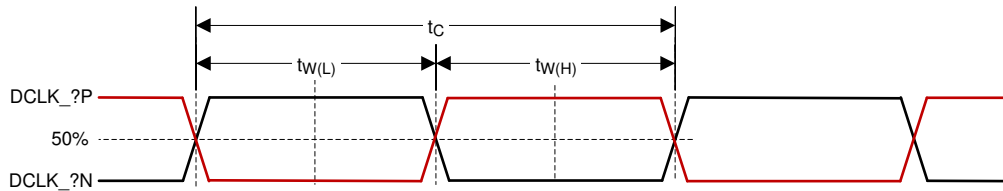

Figure 5-12. HSSI CLK Characteristics
- (6) See Figure 5-12 for pulse duration high and low for HSSI.